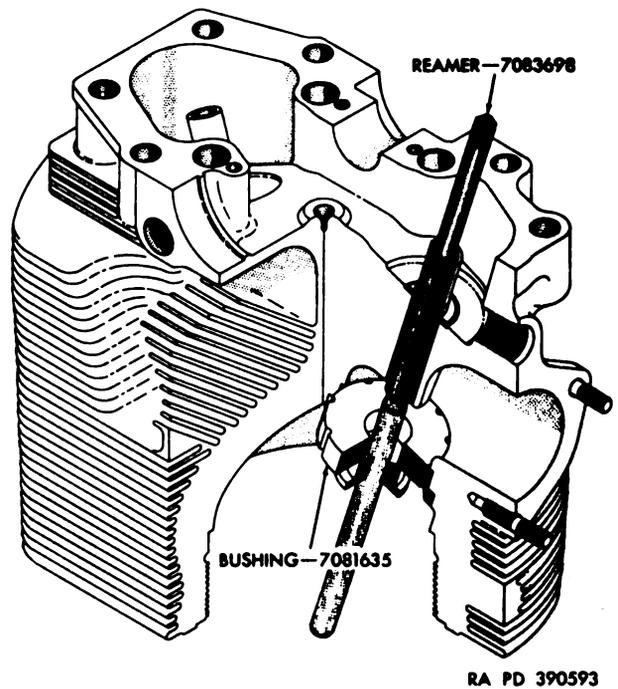

Figure 89. Valve guide reamer and pilot bushing installed—cutaway view.
- (3) *Ream new intake valve guides.*
- (a) Install pilot bushing 7081635 (fig. 89) in intake valve insert.
- (b) Use reamer 7083698 (fig. 89) to rough ream intake valve and use